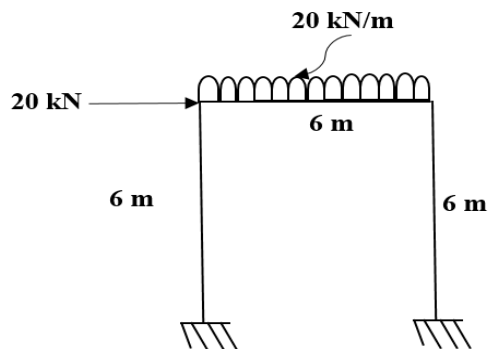

Figure. 9
- 7 a) Analyse and draw bending moment diagram for the frame shown in Figure.9 using direct stiffness method.